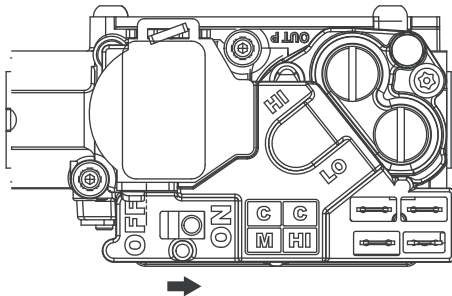

Fig. 12 - Control Switch to ON
6. After waiting 5 minutes, turn the control switch on the gas control to the ON position. (See Fig. 12.)